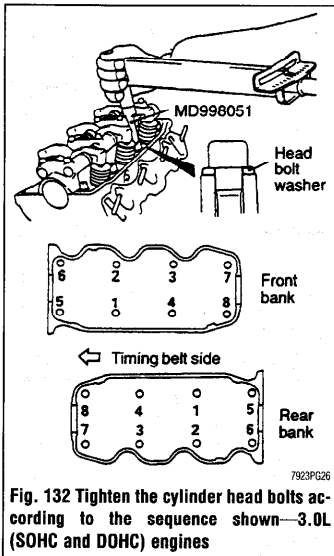

Fig. 132 Tighten the cylinder head bolts according to the sequence shown—3.0L (SOHC and DOHC) engines
▶ See Figures 132 and 133
▶ See Figure 132